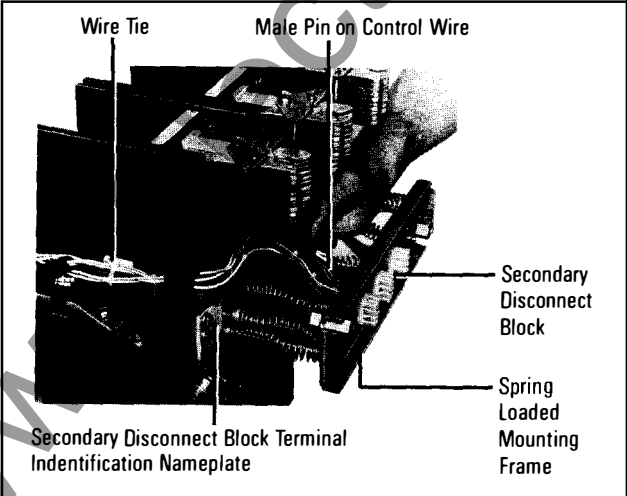

Fig. 6 Typical Control Wire Connections to Secondary Disconnect Block on Drawout Breaker
4. On drawout breakers, route the control wires to the appropriate secondary control disconnect block. A typical installation is illustrated in Fig. 6. Color coded wires with marked terminal designations and plug-in pins are provided.